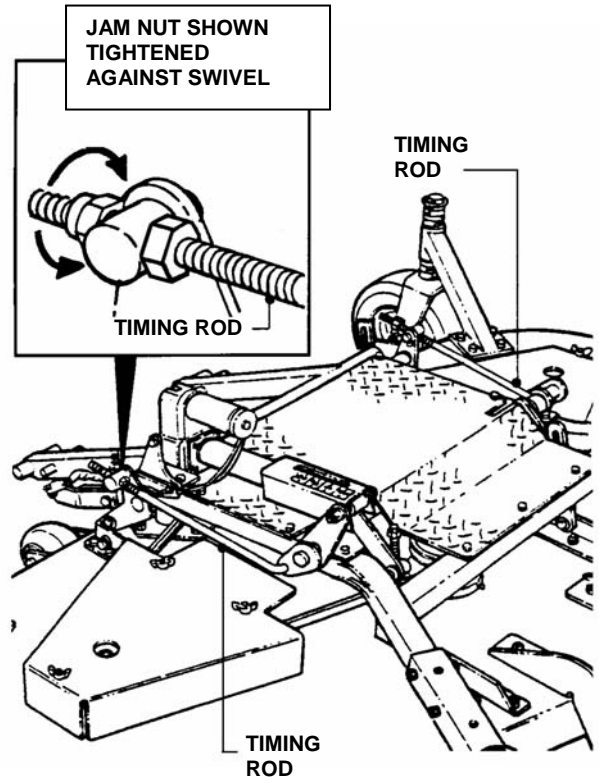

FIGURE 6
- STEP 9:** Locate jam nuts on the right timing rod and the right rear deck hanger rod. See Figures 6 and 12. Note position of nuts. You must return both nuts to this position after attaching the deck.